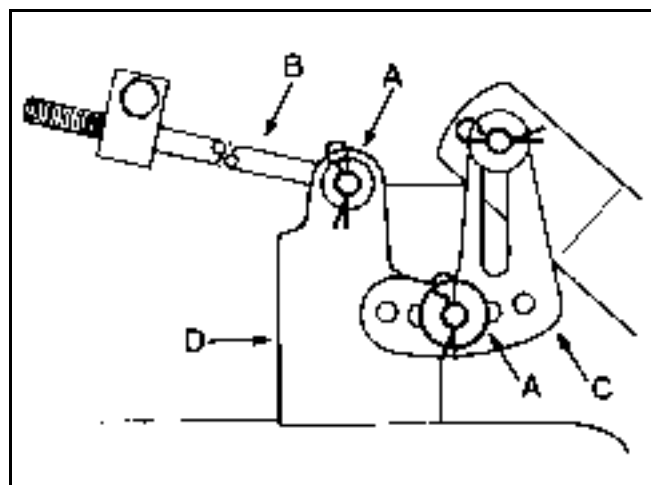

Figure 223
- Remove the hairpin cotter and washer from the leveling bracket (Figure 223). To level the blade(s), reposition the leveling bracket in a different hole and install the washer and hairpin cotter (Figure 223). A front hole lowers the blade height and a rear hole raises its height. Repeat this procedure on the opposite side.